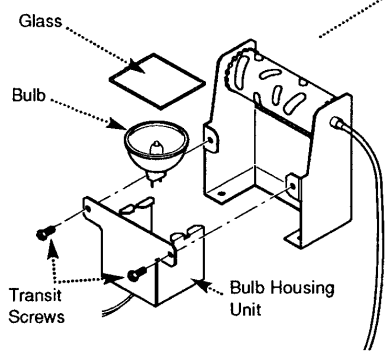

Fig. 60
11.13 Changing the Bulb and Glass (Fig. 60)